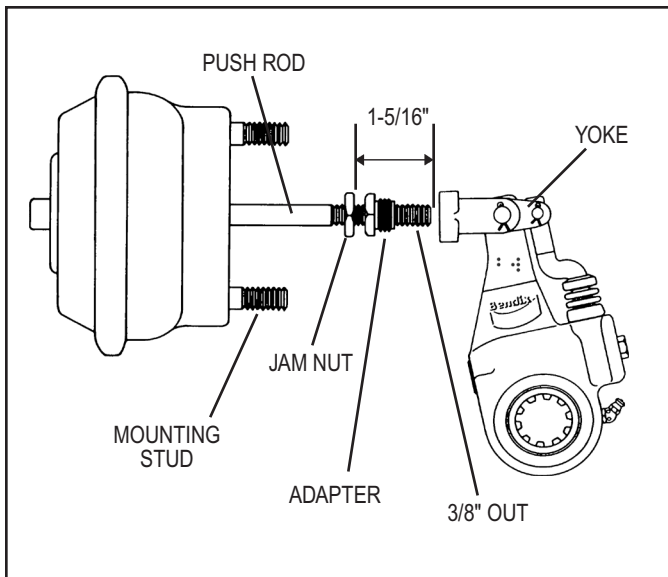

FIGURE 3 - EASY-ON YOKE ASSEMBLY
### EASY-ON YOKE (REFER TO FIGURE 3)
3. If the ASA-5® slack adjuster has the easy-on yoke (see Figure 3), position the brake actuator push rod jam nut approximately 1-5/16 inches from the end of the brake actuator push rod. Thread the easy-on yoke adapter on the brake actuator push rod until it is approximately 3/8 inch from the end of the brake actuator push rod end. Turn the ASA-5® slack adjuster manual adjustment hex clockwise until the adapter extends into the threaded bore of the yoke approximately 1/8 inch. Thread the adapter into the yoke and tighten to 10 foot pounds.